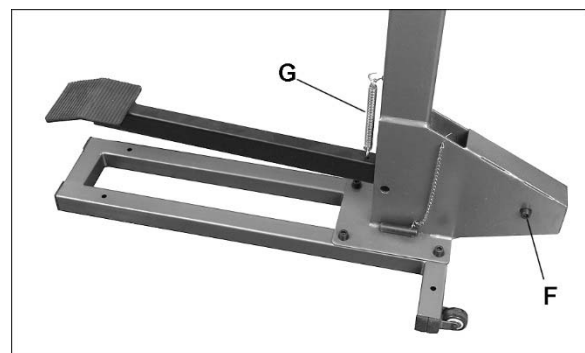

Figure 5-4
4. Align foot pedal pivot shaft with hole in stand, and insert M10x16 socket head cap screw with washer (F, Figure 5-4) into each side of hole. Make sure threaded link stud (E) remains within recess. Tighten screws securely with 8mm hex key.
5. Install spring (G, Figure 5-4), first attaching it to stand, then to foot pedal bar.